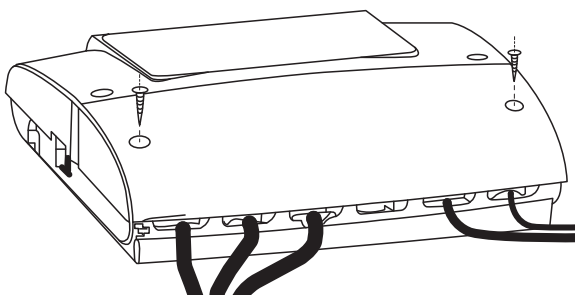

Figure 5-1: Wiring centre cover
3. Detach the lower section of the Aerona Smart controller wiring centre via the 2 screws and remove the panel. Refer to Figure 5-1.